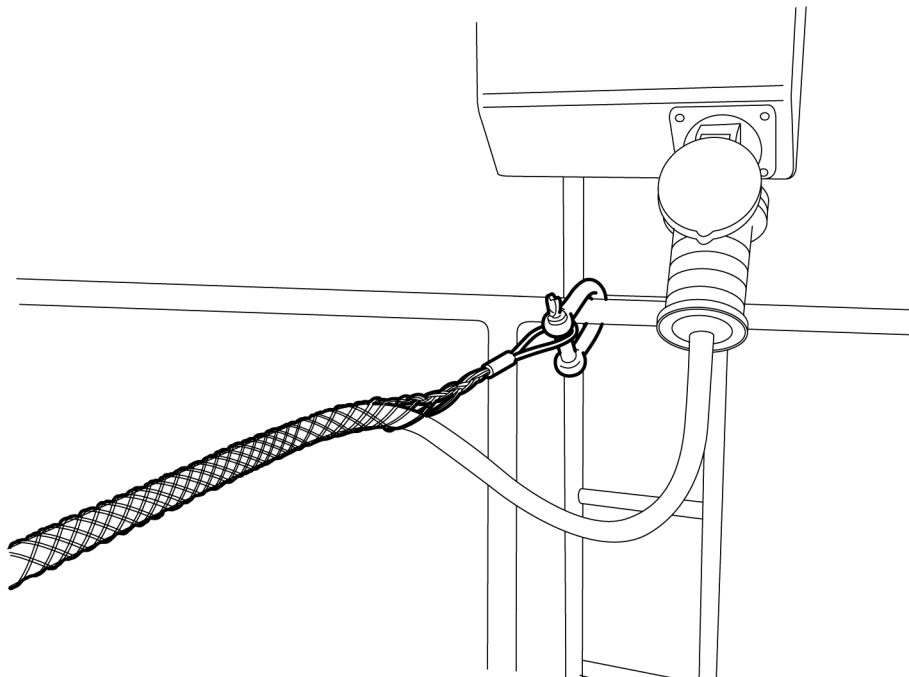

Figure 4-9. Cable and strain relief device
2. Plug the cable into an electrical socket, see *Figure 4-9, page 31*.
3. Secure the strain relief device in a suitable position in order to take the strain off the cable, see *Figure 4-9, page 31*.